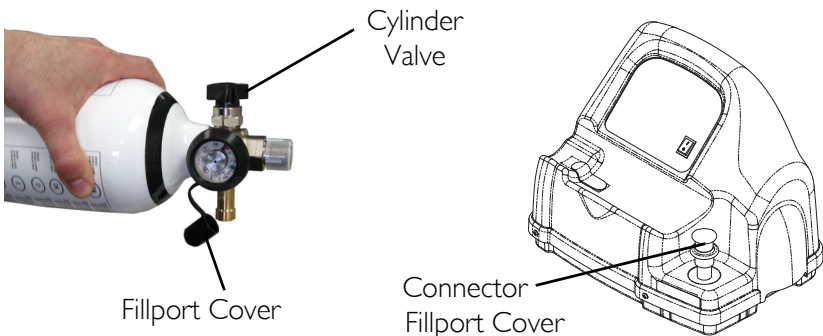

FIGURE 4.6 Connector Fillport
NOTE: For this procedure, refer to FIGURE 4.1 thru FIGURE 4.6.
17. Place the fillport covers onto the connector fillport (located on the compressor) and post valve fillport (located on the cylinder) (FIGURE 4.6).